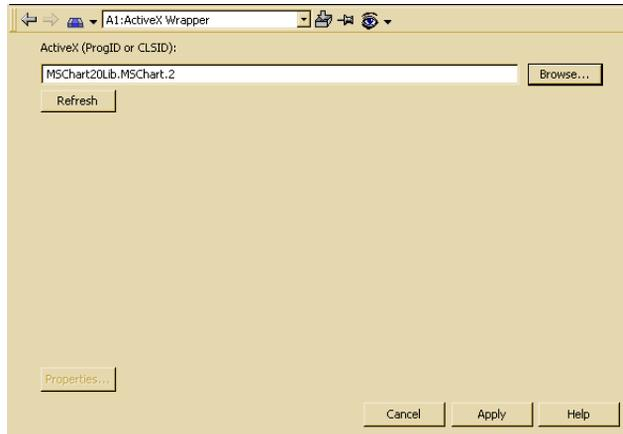

Figure 299. The ActiveX Wrapper Aspect Dialog Box
- Click the **Refresh** button in the ActiveX Wrapper dialog, see Figure 299, to verify that you have selected the proper ActiveX Wrapper.